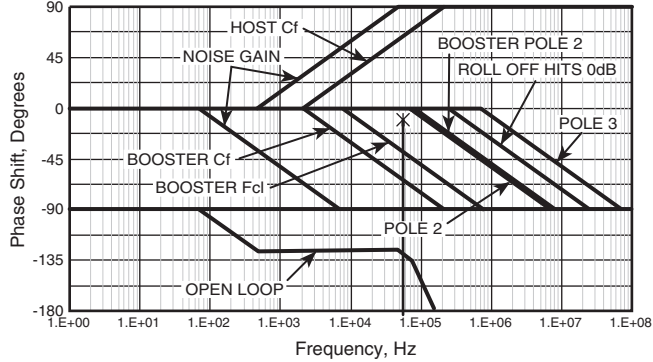

FIGURE 31.
STEP 3: Compensate composite op amp: Figure 30 (see next page) shows the selected 1/β plot to stabilize composite amplifier. Both noise gain compensation and feedback zero compensation are used to maximize stability. Figure 31 (see next page) plots the open loop phase for the composite amplifier yielding 50 degrees phase margin and good stability.